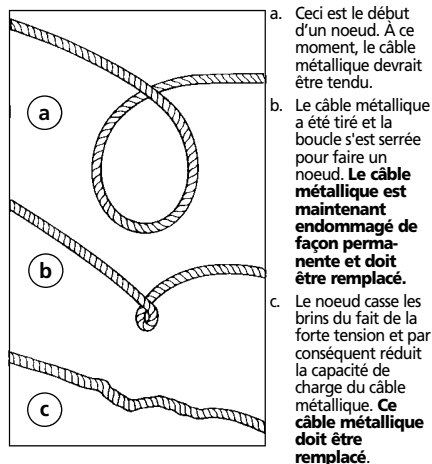

Figure 10
5. **EMPÊCHEZ LES NOEUDS AVANT QU'ILS NE SE PRODUISENT** (FIG. 10).